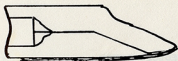

Fig. 2 In tune position
3. With the reed lever closed, (fig. 2) turn the modulation control full left and back to zero. No noticeable pitch change should occur. If the pitch does change, the reed lever has been bent inwards slightly towards the mouthpiece. If so, proceed as follows: